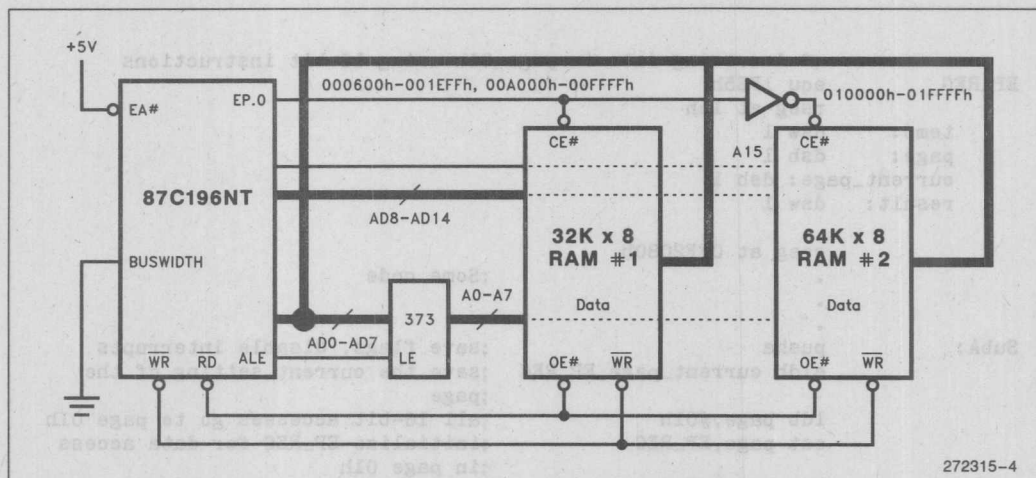

Figure 5-1. 64K Compatible Mode with 96 Kbytes of External Data Space
Figure 5-1 shows the 87C196NT running from internal (EP)ROM in 64K compatible mode. External data accesses are allowed using extended addressing instructions. The first 32 Kbyte RAM is mapped to the locations in page 00h that are not mapped for a specific purpose (see general memory map Figure 5-5). The general purpose spaces in page 00h amount to 32 Kbytes of memory. The 64 Kbyte RAM is mapped to page 01h. The 16-bit instructions (LD, ST) access RAM #1 (if the EP_REG was set to 00h) and the extended instructions access both RAMs. The 16-bit instructions can access RAM #2 if the EP_REG is loaded with 01h.
The code below applies to Figure 5-1 above. There are two subroutines (A and B). In subroutine A (see Code 5-4) page 01h is accessed using 16-bit stores. However, first the EP_REG has to be initialized to page 01h. In addition the subroutine has to restore the page value to EP_REG upon exiting the subroutine. So there is some overhead involved with using 16-bit loads/stores in different pages. Although if many data accesses are done in subroutine A then 16-bit loads/stores would be advantageous since they are faster. The extended loads/stores require an extra bus cycle since the internal bus is 16-bits wide.
Since page 00h is free to use (except for SFRs, etc.), this next memory configuration takes advantage of page 00h in 64K compatible mode (see Figure 5-2). The program counter is limited to 64 Kbyte. But, the (EP)ROM is only mapped in page FFh and the 32 Kbyte memory space in page 00h is now free. This allows use of a 64 Kbyte RAM instead of the 32 Kbyte RAM shown in Figure 5-1. Hence, there is a total of 128 Kbytes of external data available to access when using only one EPORT address line.